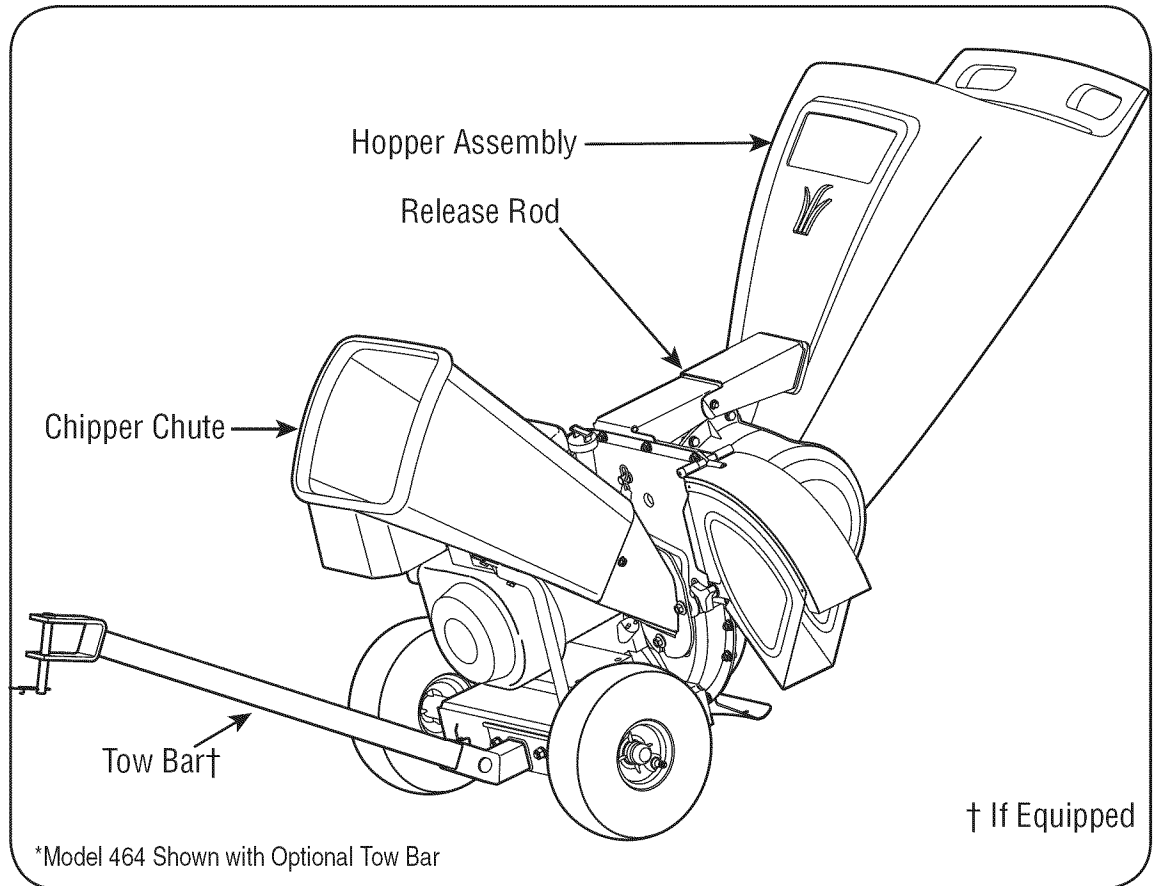

Figure 4-1
Allows twigs and small branches up to 3" (2" for Model Series 450) in diameter to be fed into the impeller for chipping. See Figure 4-1.
Allow leaves and small branches up to 1/2 diameter to be fed into the impeller for chipping and shredding. Material can be raked into hopper assembly by lowering the hopper assembly. See Figure 4-1.
The release rod is located on the impeller bracket assembly and it is used to release or lock the hopper when raising or lowering. See Figure 4-1.
Use the tow bar to tow the chipper shredder behind a tractor to a job site. See Figure 4-1.
2. With the other hand pull out on the release rod and lower the hopper assembly to the ground. See Figure 4-1.